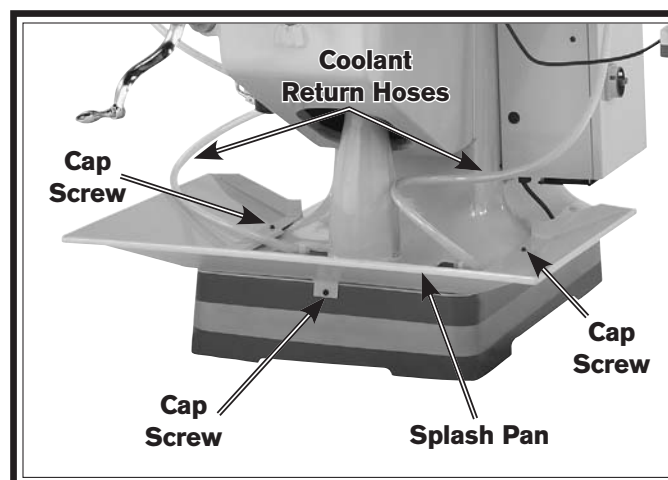

Figure 12. Splash pan and coolant return hoses installed.
1. Remove the three cap screws shown in **Figure 12** from the base rim, slide the splash pan into position, then secure it with the removed cap screws.